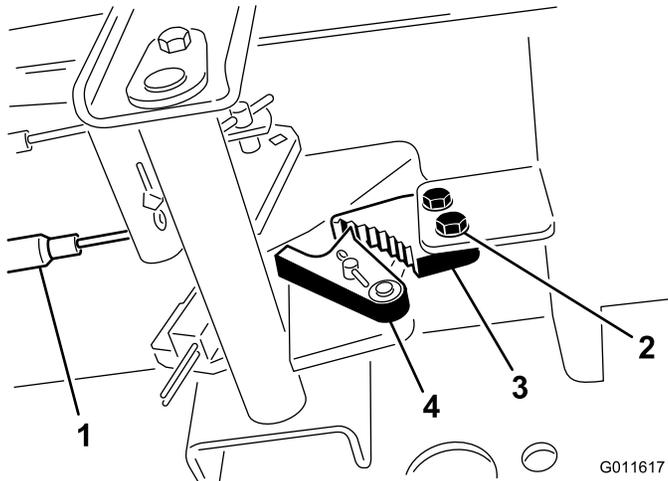

Figure 65
1. Loosen the 2 screws securing the parking-brake pawl to the frame (Figure 65).
2. Press the parking-brake pedal forward until the brake detent completely engages on the brake pawl (Figure 65).